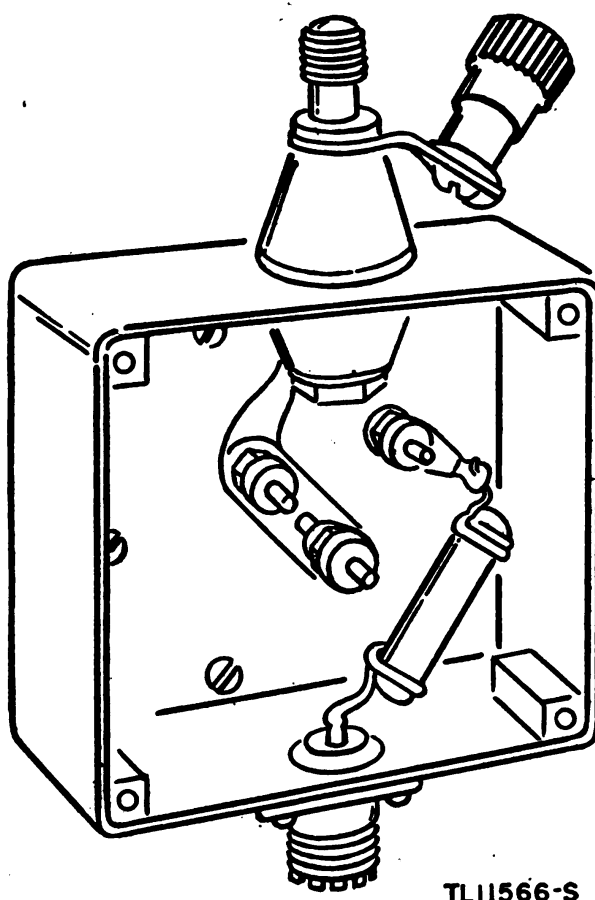

Figure 6.1 (Added) Terminal Box TM-206-A, cover removed, connection for Antenna AN-45-(*).
- (1) Box TM-206-A (figs. 6.1 and 6.2) is a terminal box approximately $2\frac{3}{4}$ inches square and $1\frac{1}{2}$ inches deep. On the top is a post for mounting Antenna AN-45-(*) and a binding post for connection of Wire W-128. On the bottom is a coaxial cable connector and a right-angle adapter. Inside the box are a change-over link and a capacitor connected between the link and the coaxial fitting. An instruction label is mounted inside the cover.
- (2) Cord CG-67/MRQ-2 consists of 9 feet of coaxial cable with a connector Plug PL-259 on each end. Cord CD-1297 consists of 9 feet of coaxial cable with a plug AN-3106-14-3ST on one end and a Plug PL-259 on the other.
- figure 6.1. Replace the cover of the terminal box and fasten with the four screws.
- (6) If the coaxial cable is to be connected vertically, remove the right-angle adapter from the coaxial cable connector. If the coaxial cable is to be connected horizontally, mount the right-angle adapter in the most convenient position.
- (7) Install the radio set, with terminal Box TM-206-A attached, and the mast base in the vehicle for which they are intended. Connect Cord CG-67/MRQ-2 between terminal Box TM-206-A and Mast Base AB-15/GR, or Cord CD-1297 between terminal Box TM-206-A and Mast Base MP-48 or MP-48-A.